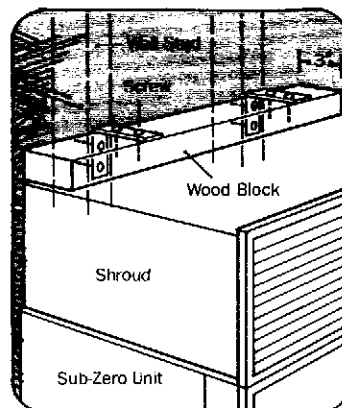

Figure 11
2) Locate the proper height to clear the unit. The space along the top of the Sub-Zero and the bottom of the wood block must not be greater than 1/4". See Figure 11.
3) Position the wood block over the unit and secure it using the screws and "L" brackets provided. Make sure screws extend a minimum of 7/8" into each of the two wall studs. The wood block must extend a minimum of three inches over the unit. See Figure 11.